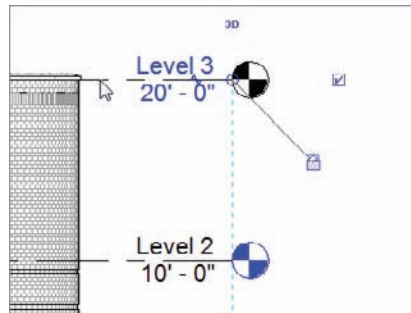

FIGURE 3.7 The completed Level 3. Remember, you are still in the Level command until you tell Revit to stop.
7. You should now have a Level 3 at 20'-0" (6000mm), as shown in Figure 3.7.